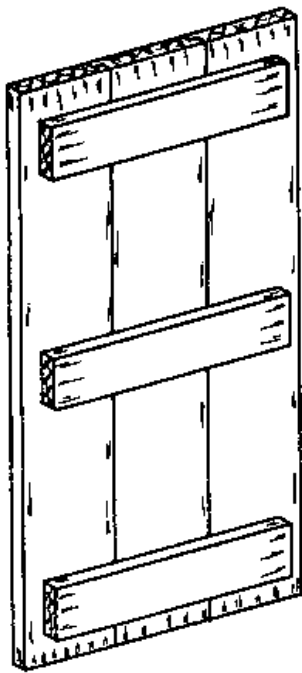

Fig. 1
- Ledged and battened doors (Fig. 1)